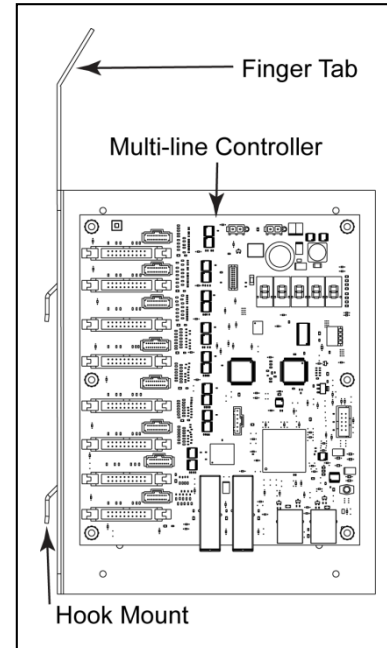

Figure 11: Multi-Line Controller
3. Pull the finger tab and lift the MLC assembly. Refer to **Figure 11**.